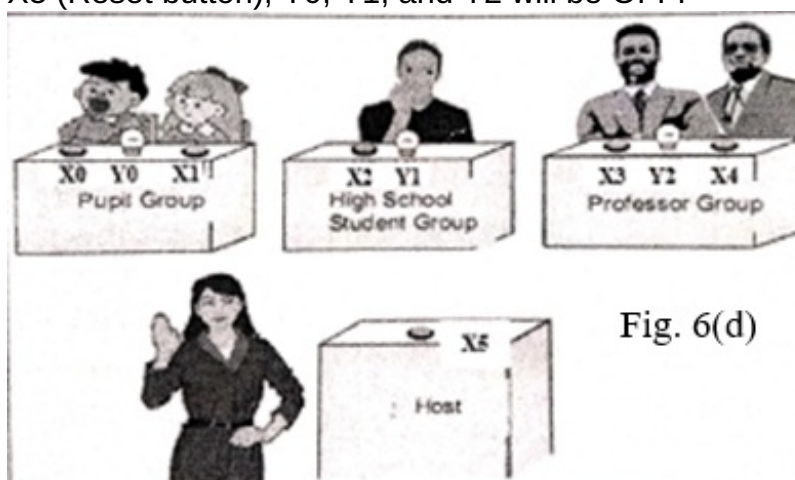

Fig. 6(d)
- B) Using programmable logic controllers, write a program according to the following conditions: (3)
- C) What are the three highlighted attributes/characteristics of DCS? List any three types of DCS with suitable examples. (6)
- D) Develop a ladder logic to implement the process described below as shown in Fig. 6(d): (5)